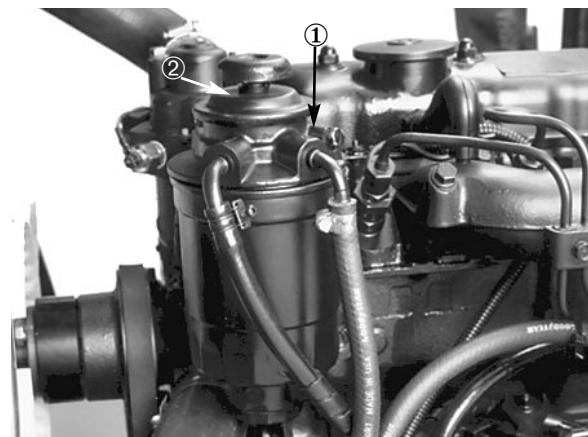

Figure 12
2. Loosen the fuel filter bleed plug one turn (Fig. 12). Push the priming plunger (Fig. 12) until a steady stream of fuel runs out of the hole in the plug. When the fuel stops foaming, tighten the plug during the downstroke of the priming plunger. Wipe up any spilled fuel.